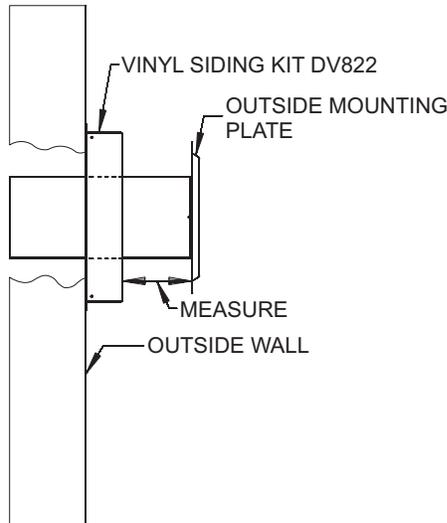
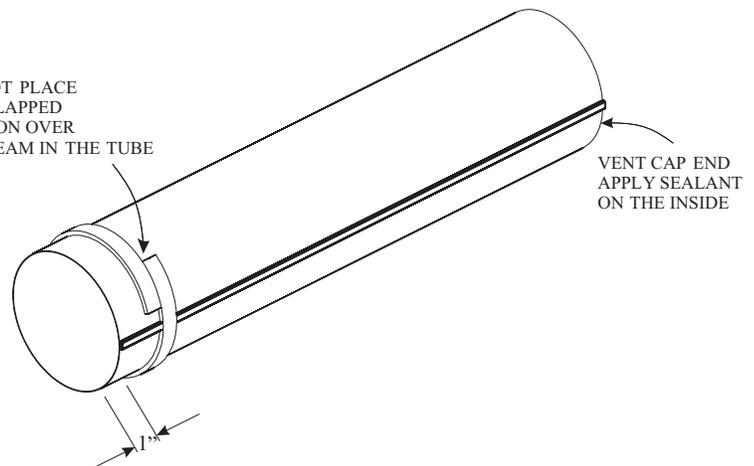

Figure 46
Figure 48
5. Attach the inlet tube to the outside mounting plate. Align tinnerman clips on the tabs of the air inlet tube to the holes on outside mounting plate, and fix with (2) #10 x 1/2" screws.
6. With the vinyl siding kit installed to wall (if necessary), insert the 6 5/8" (168mm) diameter tube with outside mounting plate attached through hole in wall. Connect to collar on fireplace or rigid vent system. Measure between wall or vent cap extension and outside mounting plate (**Figures 46 and 47**).
8. Attach the 4" (102mm) diameter flue outlet tube onto the rigid venting system or directly to fireplace. Ensure the 4" (102mm) diameter flue outlet tube is placed as far as possible onto the rigid venting system. Mark the 4" (102mm) diameter flue outlet tube 2 1/2" (64mm) beyond the vinyl siding kit or wall. See **Figure 46**. Remove the 4" (102mm) diameter flue outlet tube from rigid venting system. When installing directly to fireplace, tape gasket needs to be used.
10. From outside: Push the 6 5/8" (168mm) diameter inlet tube/mounting plate onto end of rigid venting system to correct position. Fasten the outside mounting plate to the vinyl siding kit or wall with (4) 10 x 1 1/2" screws. (Ensure upward slope).
11. From inside: Attach the inlet tube to the collar on the back of the fireplace (or the rigid venting system) using (3) self tapping screws.
12. Seal the 4" (102mm) diameter flue outlet tube. Follow instructions and diagram (**Figure 48**).
14. Fasten vent cap end using (3) 10 x 1/2" screws to mounting plate.
If the air inlet and flue outlet tubes are to be connected directly to the unit (no rigid venting system is being used), then the gasket provided must be used to seal the 4" (102mm) flue outlet tube. Peel the paper off the self-adhesive gasket and then wrap it around the end of the tube (if tube was cut, it is recommended to use cut end) as shown in Figure 48. Pull the gasket tight at all times while wrapping it around tube. The gasket ends should align, to form a complete seal. The overlapped section should NOT come in contact with the seam in the tube. Apply high temperature sealant to the opposite end of the tube (on the inside of the tube). The end with the gasket will attach to the back of the unit. Continue with Step 13.